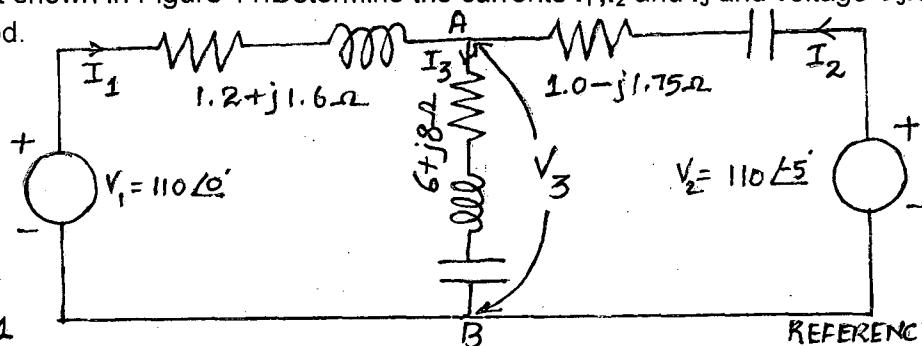

FIG. 11
11. For the circuit shown in Figure 11. Determine the currents I_1, I_2 and I_3 and voltage V_3 . Use Nodal Method. (16)